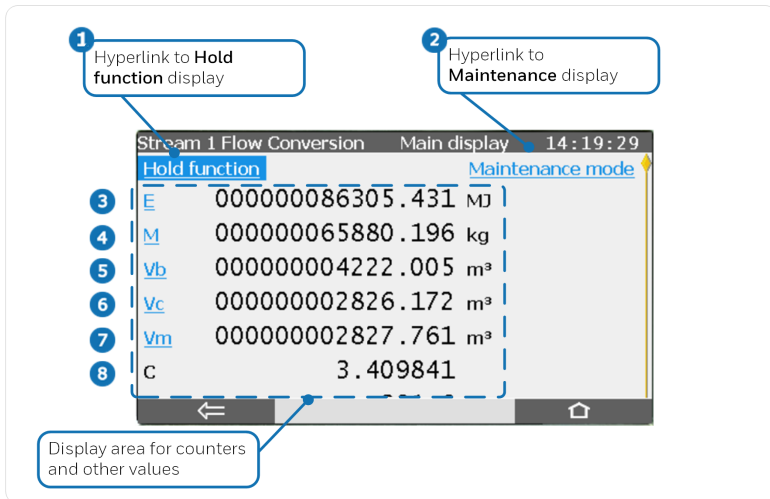

Fig. 5-6: Flow Conversion: Main display - example
- 1 vb denotes the base volume main counter. The hyperlink switches to Flow Conversion AFB's main display ( ⇔ Fig. 5-6: Flow Conversion: Main display - example, p. 34).